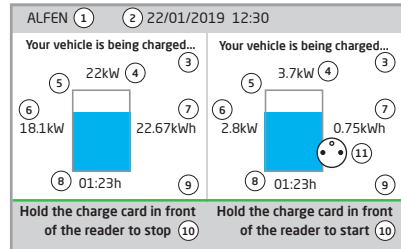

Figure 2: Display of Eve Double Pro-line FR during charging with Type 2 socket and E-socket simultaneously
- ③ Status information.
- ④ Maximum charging capacity of the outlet.
- ⑤ Status indicator (symbols, see figure 2)
- ⑥ Current charging capacity to the connected vehicle.
- ⑦ Energy picked up during the current transaction.
- ⑧ Duration of the current transaction.